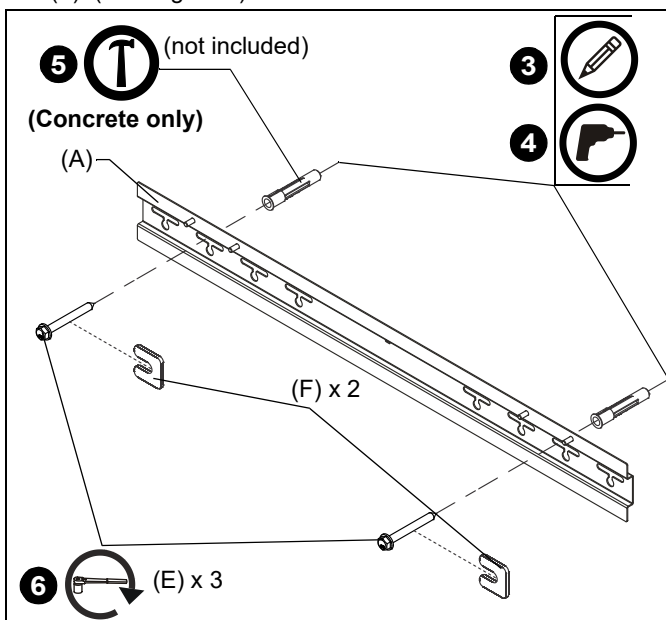

Figure 2
- Wood stud:** Drill two 7/32" x 2-3/4" pilot holes at marked locations. **Concrete:** Drill two 3/8" x 3-1/2" pilot holes at marked locations. (See Figure 2)
- Secure upper wall plate (A) to wall using two 5/16 x 3-1/2" hex head lag screws (E) and two 5/16" installation spacers (F). (See Figure 2)